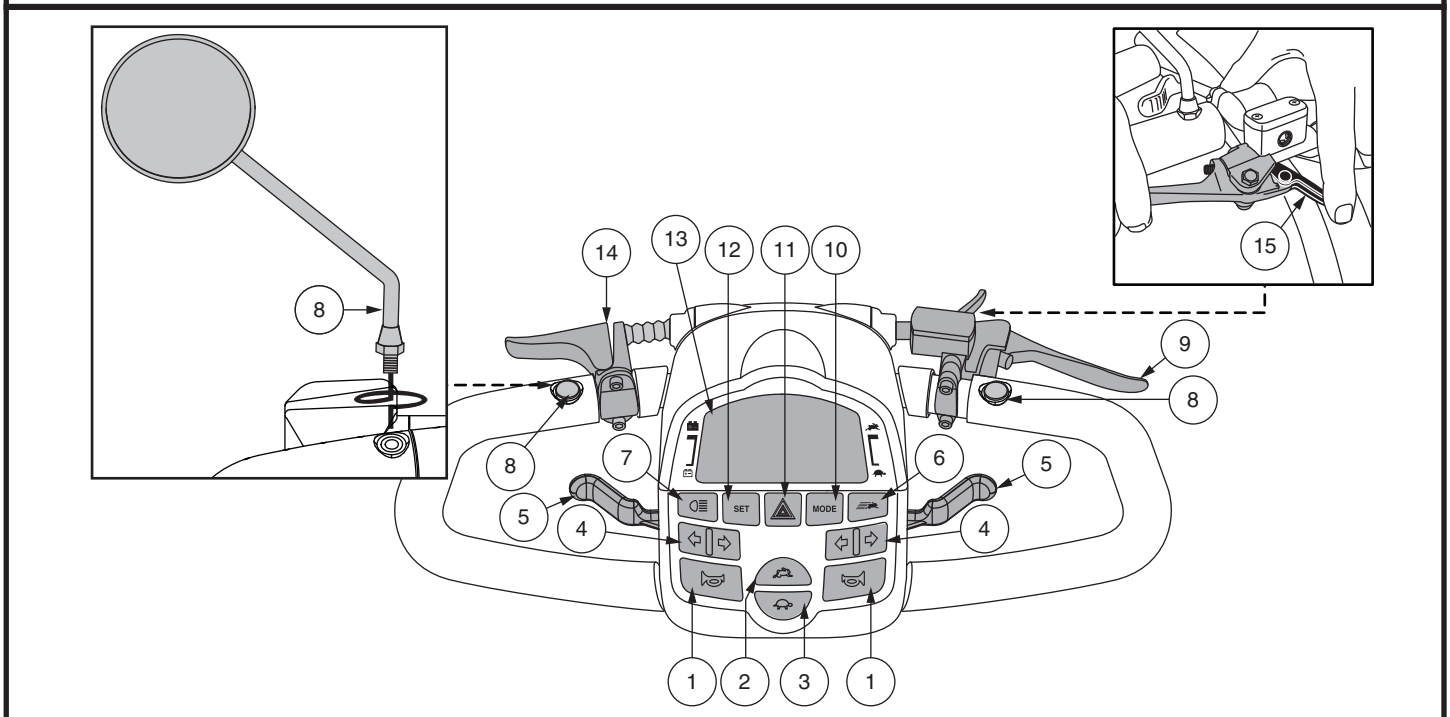

Figure 1. Tiller Console
The tiller console houses all of the controls needed to drive your vehicle, including the LCD control panel, handbrake lever, tiller adjustment lever, and the throttle control lever. See figure 1.
This lever allows you to control the forward speed and the reverse speed of your vehicle up to the maximum speed you preset with the speed adjustment. A throttle control lever is located on the underside of the left and right side of the tiller handle. See **figure 1**.
- Press the **High-Low** button once to set the speed adjustment to high. The High-Low indicator will display on the LCD screen. See **figure 1**. Using this setting in conjunction with the speed adjustment buttons will allow the vehicle to achieve speeds up to the maximum preprogrammed speed for the vehicle.
The LCD control panel offers easily intuited feedback information via the LCD screen. See **figure 1**. The LCD screen is also used during the set-up (activation) of the various control panel settings.
**NOTE:** To program control panel settings, Hi-Low Indicator must be switched off, and Maximum Speed Indicator must be set to full. See figure 1.